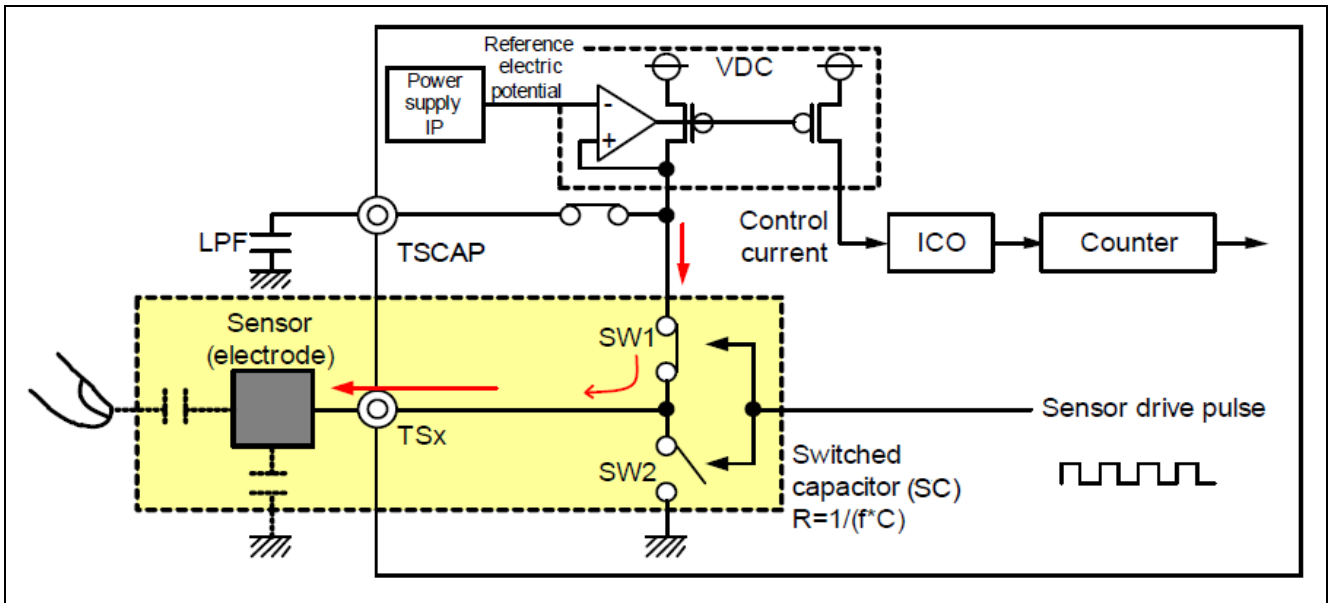
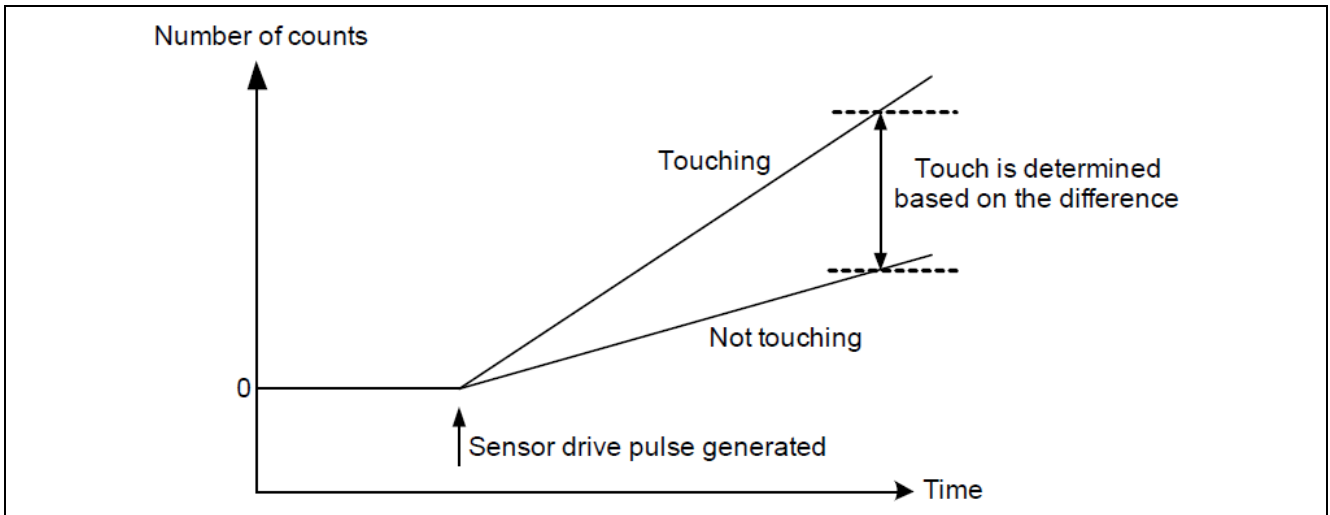

Figure 2-2 Charging Operation
Figure 2-4 Change in Measured Value When a Finger is Touching or Not Touching
Figure 2-2 to Figure 2-4 explain the electrostatic capacitance measurement operation principles of the CTSU current frequency conversion.
- (1) The electrostatic capacitance of the electrode is charged by turning SW1 on and SW2 off (Figure 2-2).